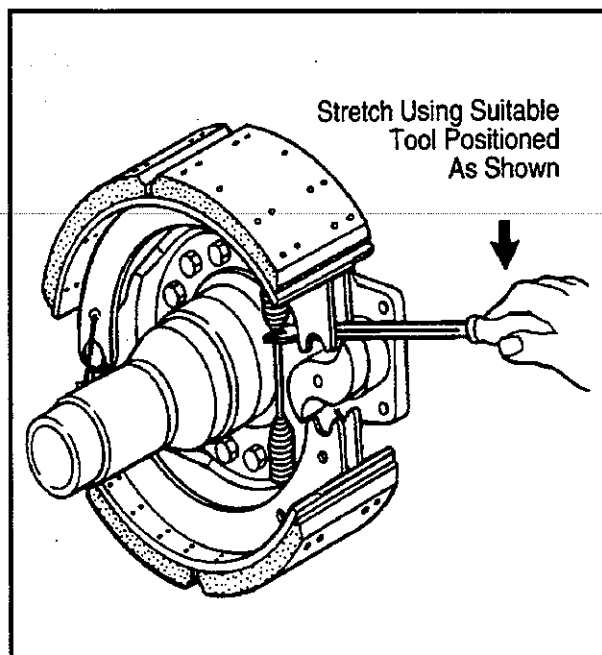

Figure 7—Engage Spring Rod
6. Position a lever or a suitable tool with notch to engage spring rod. (See Figure 7—Engage Spring Rod.)
17. Position a lever or a suitable tool with notch to engage spring rod. (See Figure 7—Engage Spring Rod.)